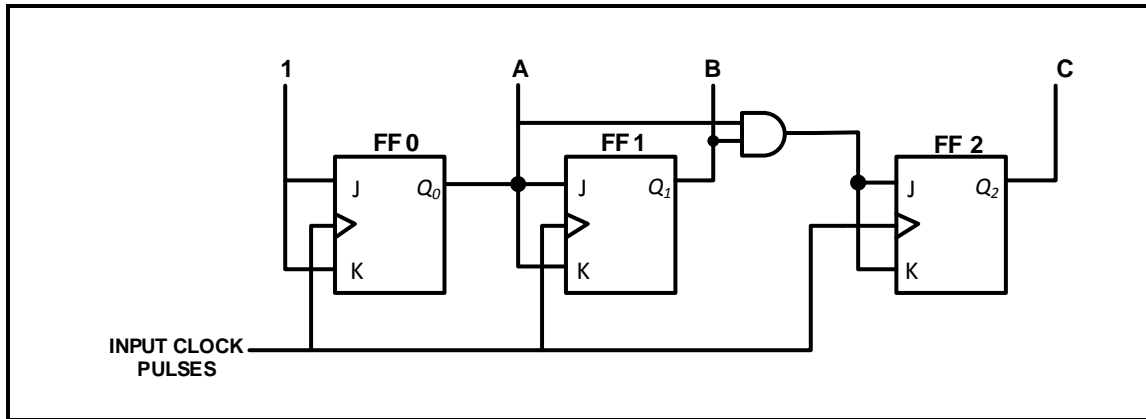

FIGURE 4.11: THREE-STAGE SYNCHRONOUS BINARY COUNTER
4.11 FIGURE 4.11 below shows the circuit diagram of a three-stage synchronous binary counter.
4.11.2 Explain the purpose of the AND gate in FIGURE 4.11. (3)